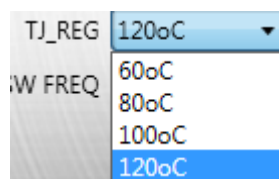

Figure 18: Thermal Regulation Threshold Setting
16. Set the thermal regulation threshold (see Figure 18). The thermal regulation threshold ranges between 60°C and 120°C, and the default value is 120°C.